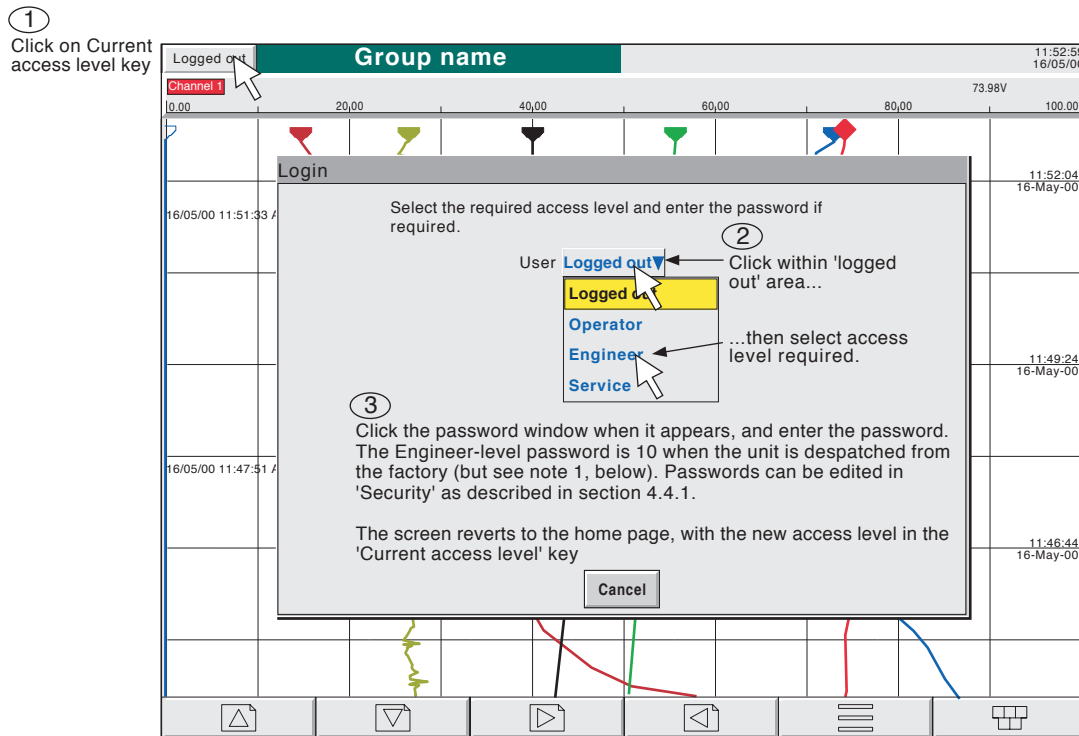

Figure 3.3.1a Access to configuration
- 1 As shown in figure 3.3.1a, once the unit has initialised, click the current access level key
2. Figure 3.3.1a shows 'Login by User List', which is the default method. If the Auditor Pack and/or Security Management option is fitted, an alternative 'Login by User ID' procedure is possible. See section 4.4.2 \(Management\) for details.